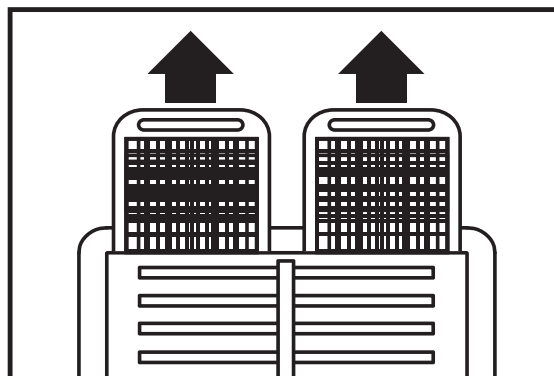

Fig. 14
- ▶ **5.2.2.** Remove the filters upwards (Fig. 14).